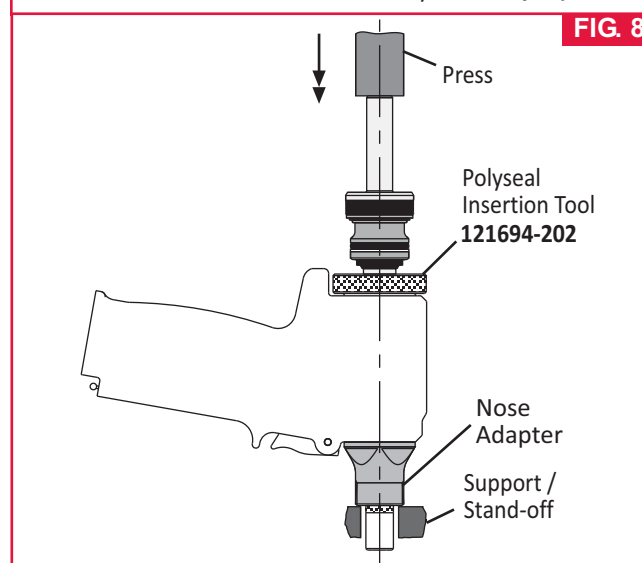

FIG. 8
3. Thread Polyseal Insertion/removal Tool into head (Fig. 8).
7. Install assembled components in gently from rear of tool using a press as shown in (Fig. 8).